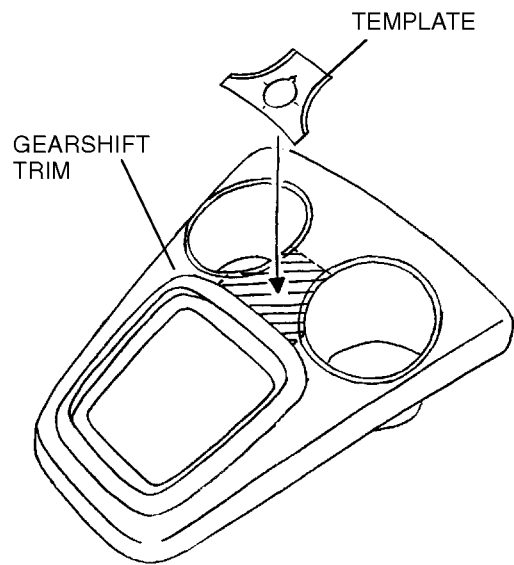

FIGURE 12
3. Carefully position the template on the gearshift trim, tape it in place, and then mark around the area to be drilled with a marker (refer to Figures 12 and 13).